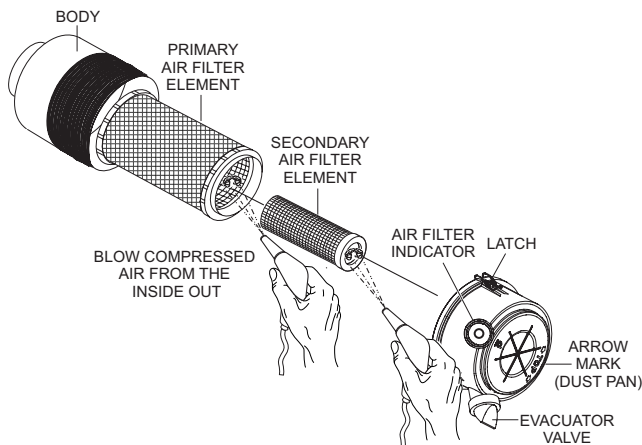

Figure 59. Engine Air Cleaner
The air cleaner (Figure 59) provided with this John Deere diesel engine is equipped with a replaceable, high-density, paper air filter element. The air cleaner is also equipped with an inner (secondary) element that is used as a backup filter should the primary element become damaged. Check the air cleaner daily or before starting the engine. Replace the air cleaner as needed.
1. Release the **latches** that secure the **air cleaner cover** to the **air cleaner body** (Figure 59).
2. Remove the air cleaner cover (Figure 59) and set it aside.
3. Remove both the primary and secondary **air cleaner elements** (Figure 59).
5. To clean the **primary element** (paper air filter) as shown in Figure 59, tap the filter element several times on a hard surface to remove dirt, or blow compressed air, not to exceed 30 psi (207 kPa, 2.1 kgf/cm²), through the filter element from the inside out.
8. Clean the inside of the air cleaner body (Figure 59).